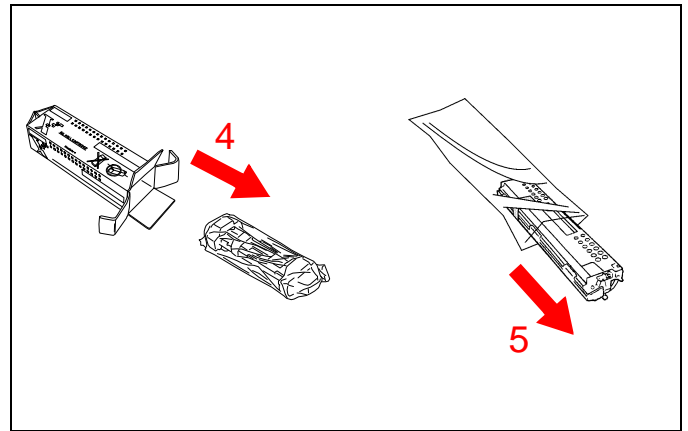

Figure 34
- See Figure 34. Remove the new fuser oil roll cartridge from the box.